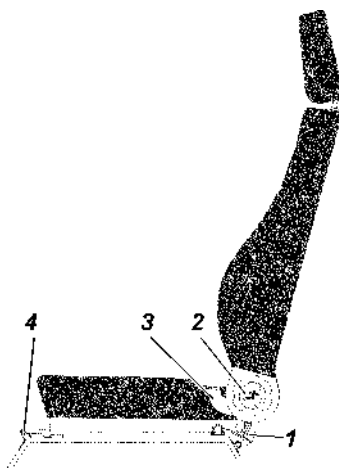

Fig.3.7 Front seat:
Adjustment of the reclined front seat backrest is performed by turning knob 2 (Fig. 3.7).
-Unscrew the wing nut 1 (Fig. 3.7) and tilt the seat forward;